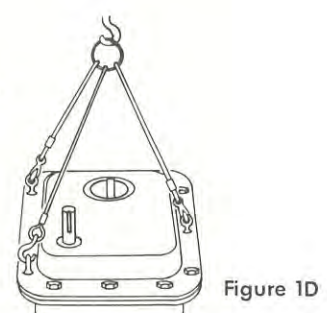

Figure 1D
**Vertical Shaft Mounted and Flange Mounted Drives:** Remove three housing fasteners and install eyebolts as shown in Figure 1D. Eyebolt sizes are 3/16" for Size 2107 and 2115 drives, 3/8" on Size 2203 drives and 1/2" on Size 2207 thru 2307 & 3315 drives. Sling drive from eyebolts and lift into final position. Remove eyebolts, reinstall housing flange fasteners and torque to value specified in Table 1.